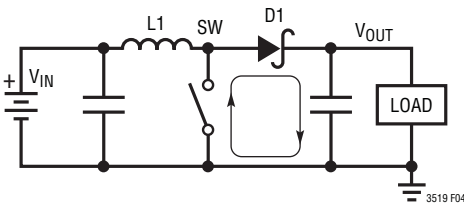

Figure 4. High Frequency Path
As with all switching regulators, careful attention must be paid to the PCB board layout and component placement. To prevent electromagnetic interference (EMI) problems, proper layout of high frequency switching paths (see Figure 4) is essential. Minimize the length and area of all traces connected to the switching node pin (SW). Keep the sense voltage pins (ISP and ISN) away from the switching node. The bypass capacitor on the  $V_{\text{IN}}$  supply to the LT3519 should be placed as close as possible to the  $V_{\text{IN}}$  pin and GND. Likewise, place  $C_{\text{OUT}}$  next to the CATHODE pin. Do not extensively route high impedance signals such as FB and CTRL, as they may pick up switching noise. Figure 5 shows the recommended component placement.